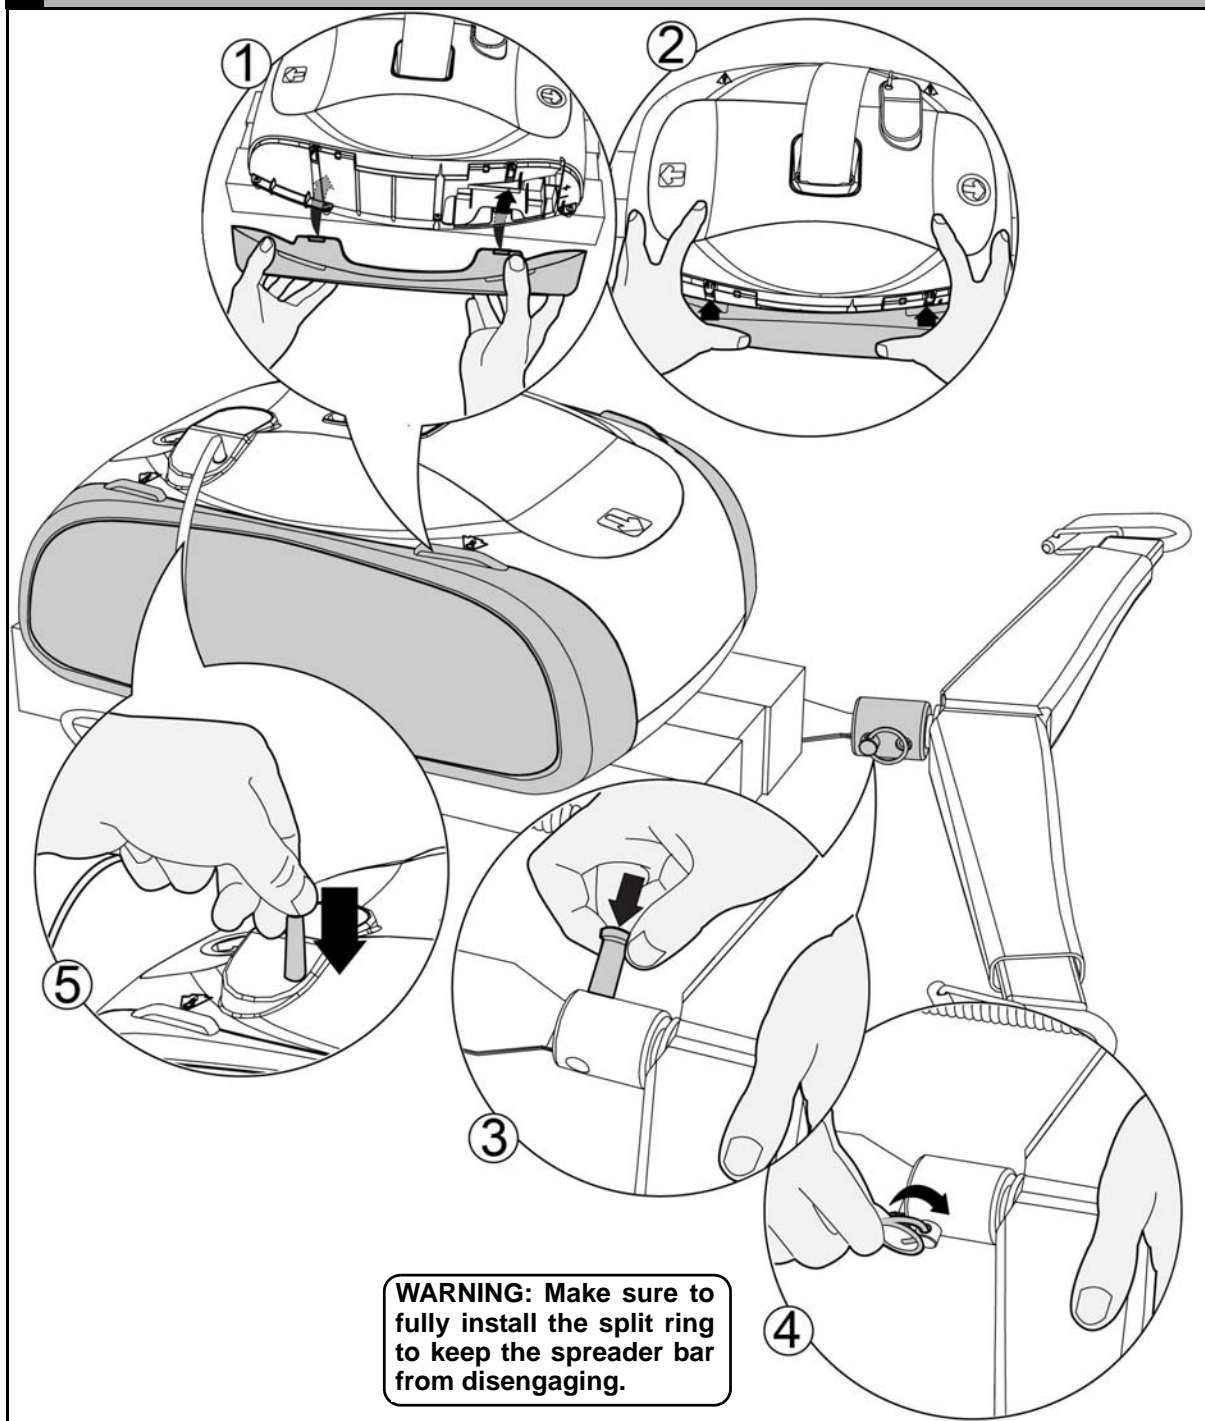

Fig. 15
- ⑤ Reinstall the spreader bar to the strap (see Fig. 15).